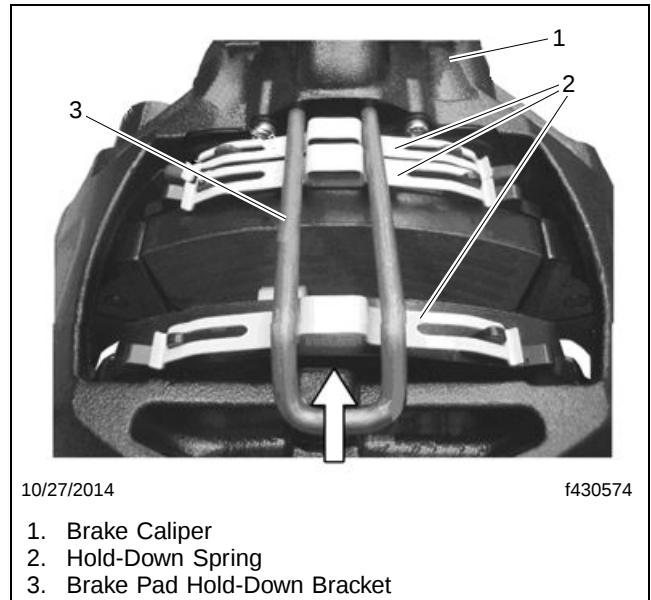
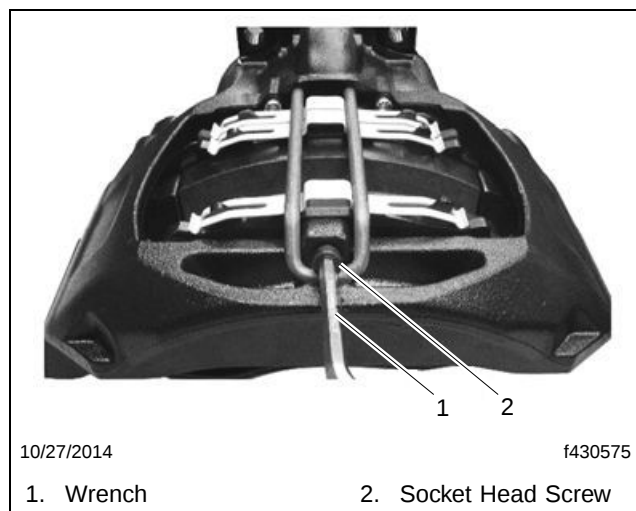

Fig. 12, Installing Hold-Down Springs and Bracket
Fig. 13, Tightening the Hold-Down Bracket
39. Install a new brake pad hold-down bracket, pressing down against the brake caliper, so the bolt can be installed. See **Fig. 12** and **Fig. 13**. Tighten 22 to 33 lbf·ft (30 to 45 N·m).